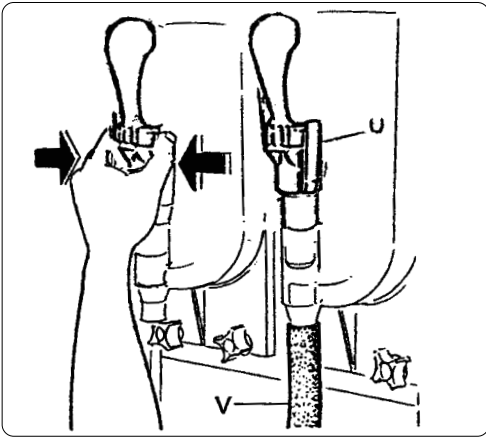

Fig. 31
f) Remove the tap from its seating by pressing the two clamping tabs (fig. 31).